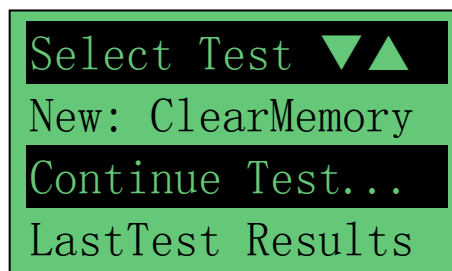

Figure 11
2. It will run through a self-test and when completed it displays the Main Menu as shown: (Fig. 11)